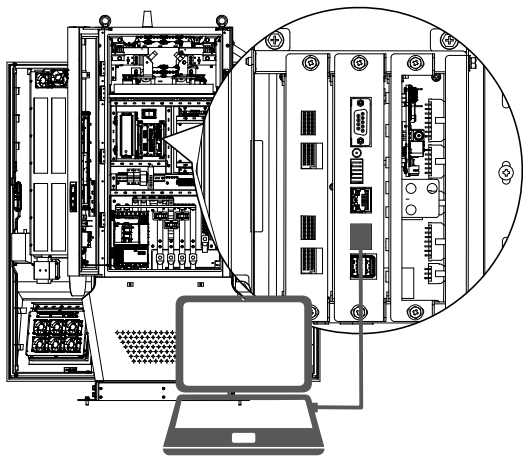

Figure 30. RJ-45 Port
- Connect an RJ45 cable. See figure 30.